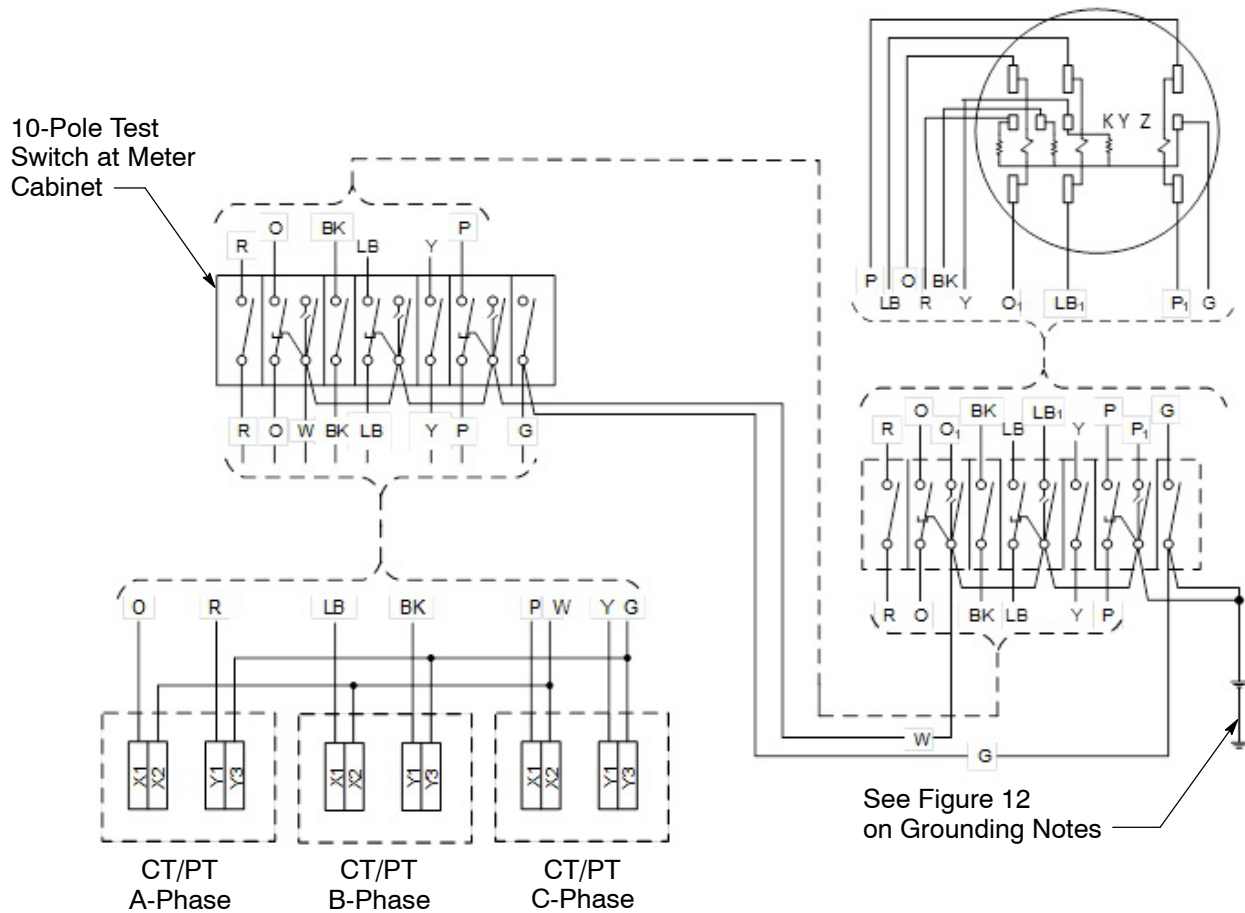

Figure 14
6. Moved Figure 11 on rev #5 to Figure 14 and added new Figure 11.